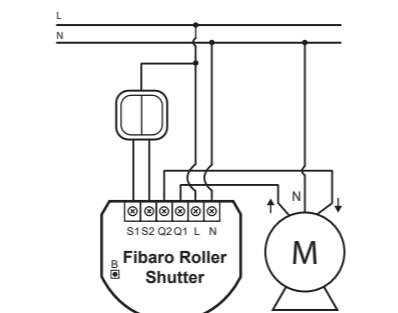
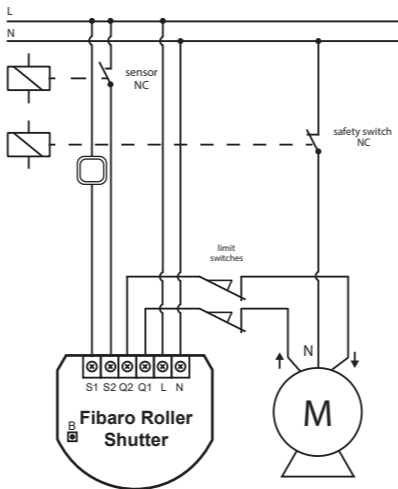

Fig. 1 Roller Shutter wiring diagram
Fig. 2 Connecting Roller Shutter to GATE motor
- Connect the Roller Shutter in accordance with the wiring diagram presented on Fig. 1 (roller blinds, venetian blinds) or Fig. 2 (gates).
- Make sure the module is connected to the power supply, according to Fig.1
- Make sure the module is connected to the power supply, according to Fig.1, and to the switch keys as well (S1 and S2 inputs).